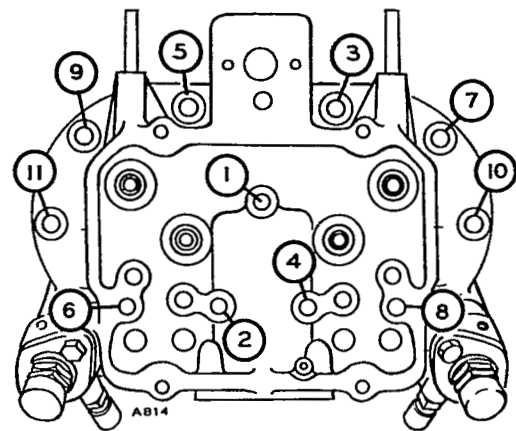

FIGURE 51. HEAD BOLT TORQUE SEQUENCE
5. Install head assembly and gasket to cylinder block. Tighten head bolts to 44 to 46 foot-pounds (60-62 N•m). Follow sequence in Figure 51 and Steps a. through c.
- c. Tighten cylinder head bolts in sequence shown in Figure 51 to 25-30 foot-pounds (34-41 N•m).